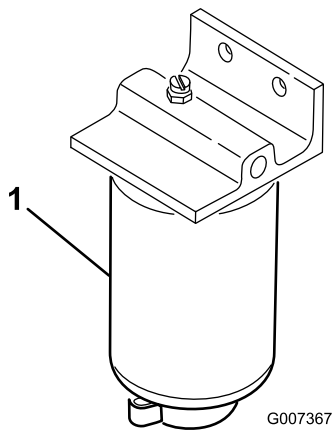

Figure 37
4. Open the filter drain plug and breather valve (Figure 37).